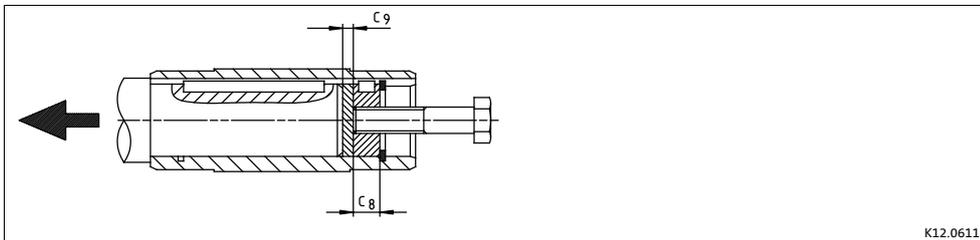

Fig. 6 Disassembly of gearboxes with a hollow shaft, with auxiliary tool; not for GKR
2. Remove/extract the gearbox from the motor shaft using an appropriate auxiliary tool (Fig. 6).